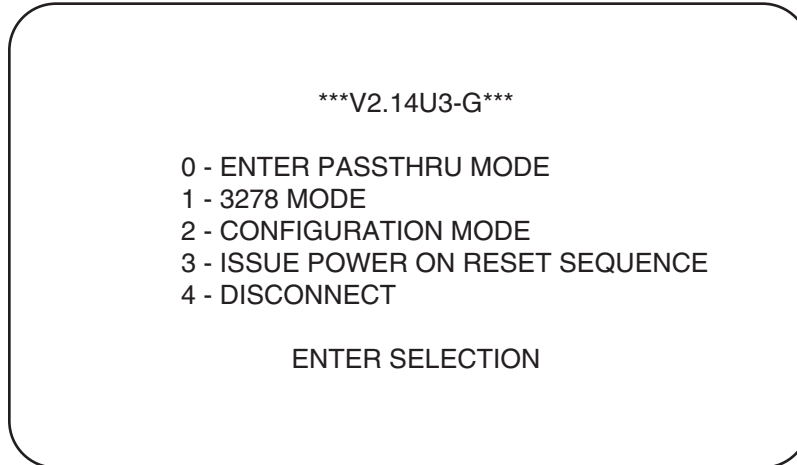

Figure 5-1. Logon Menu.
The logon menu (Figure 5-1) offers the following modes of operation as options: Passthrough, 3278 Emulation, Configuration, and Disconnect. As set at the factory, the Logon mode is the first mode of operation available when the terminal and A/C-4 (B) connect; however, you can specify 3278 emulation as the initial connect mode.
If the Logon mode is the first mode of operation when the A/C-4 (B) and the terminal are connected (initial connect mode), the logon menu is displayed after a valid terminal type is entered. The menu is shown in Figure 5-1. The Logon mode is offered when exiting any other mode after entering the terminal emulator. Five options (0 to 4) appear on the menu. The firmware version is the first line of the menu.